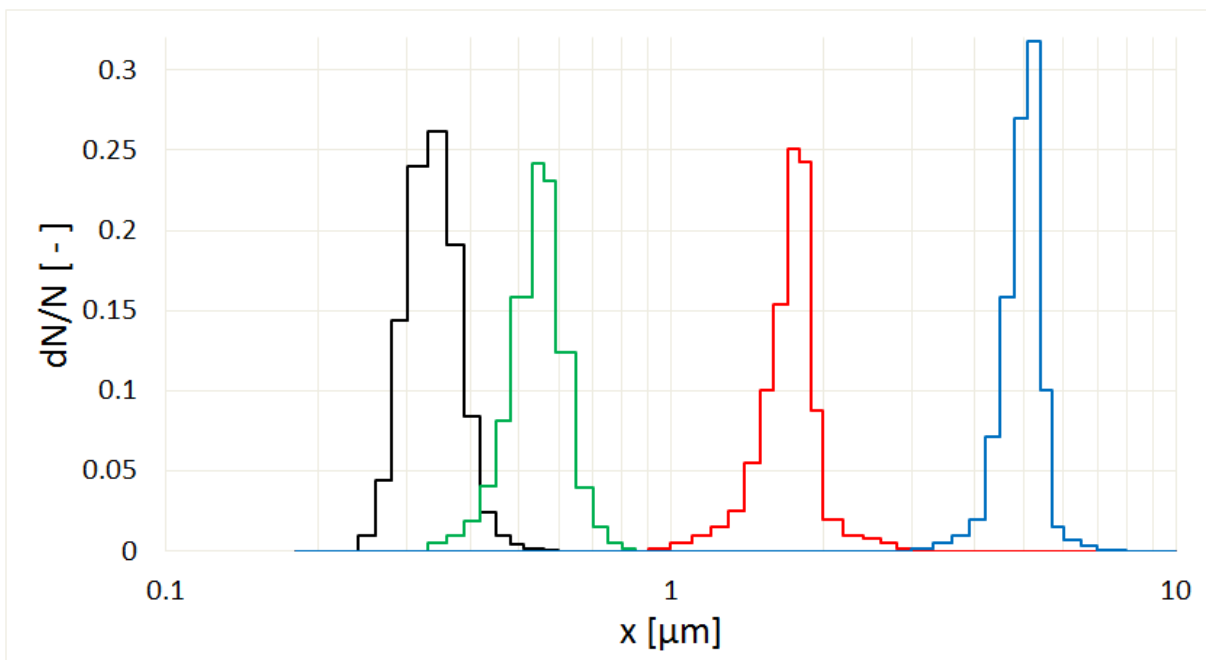

Fig. 3 Monodisperse particle size distributions
1. Temperature change in the vaporizer (Fig. 3)
2. Bypass around the vaporizer (Fig. 3)
3. Bypass around the core source (Fig. 3)